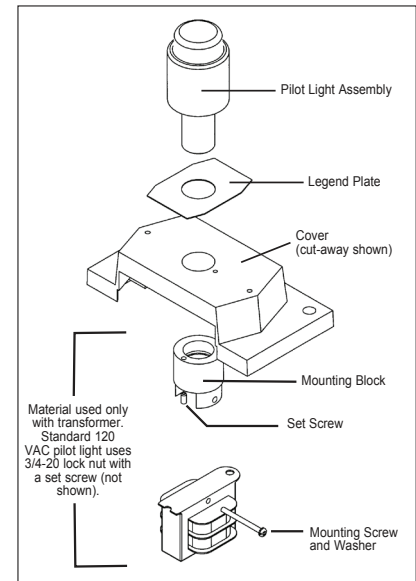
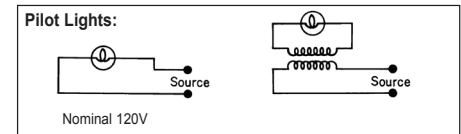

Figure 9. Assembly of Pilot Light (Including Transformers)
Figure 10. Wiring Diagram for Pilot Lights (Including Transformers)
- Select the proper cover for assembly. Similar cover and back box materials can only be used (e.g. iron with iron; aluminum with aluminum). Make the electrical connection utilizing the wiring scheme established for your system. See 'Assembly of Pushbuttons and Pilot Lights' for instructions on how to assemble the cover assemblies. Disassembly of internal components may be required. See Figures 9 and 10 for wiring diagrams for the pushbuttons and pilot lights, respectively.
Select the DL Legend Plates with proper markings or marking windows. Orient them horizontally on the cover as desired. Note a marking window is provided for field marking customer's specific terms. Assemble the pilot light assembly through the legend plate and onto the cover. Tighten the pilot light assembly to the cover until it bottoms out on the thread. Use the 3/4-20 lock nut on the inside of the cover to secure the pilot light to the cover. See Figure 9.
Figure 9). Mount the transformer to the mounting block using the mounting screw and lock washer. Connect both wire leads of the pilot light to the secondary side of the transformer using its white wires. Safely insulate each of these connections by use of wire nuts. The primary side of the transformer (black wires) is to be connected to the power supply. See Figure 10 for wiring diagram of pilot light.